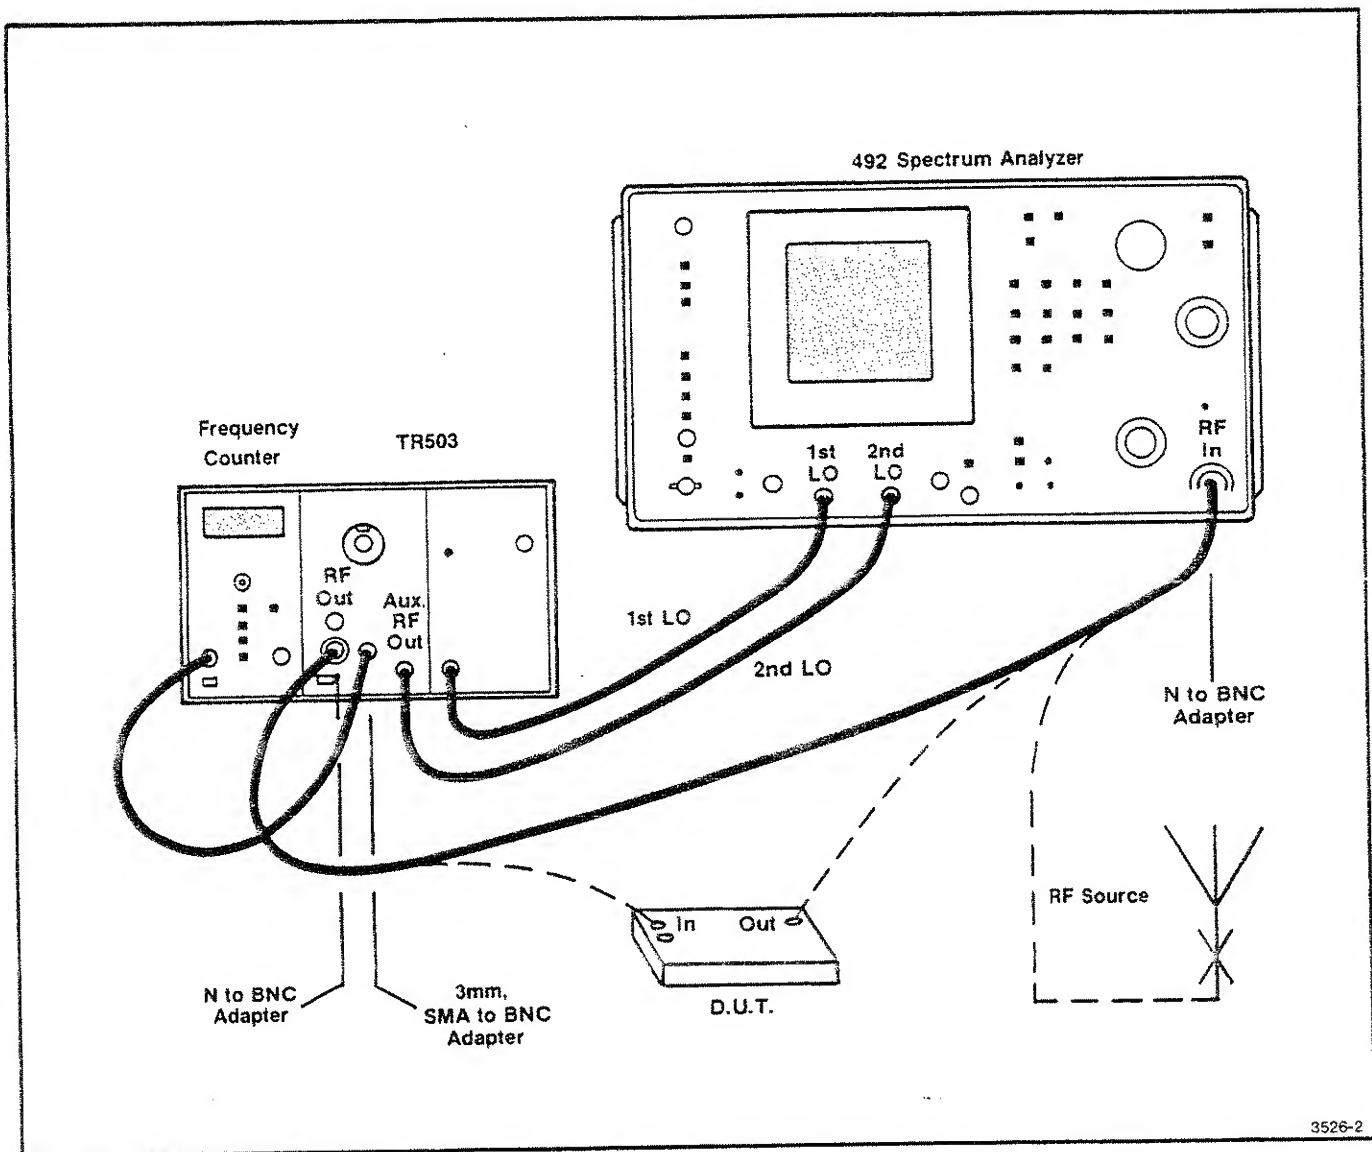

Fig. 2-2. TR 503/492 System with Frequency Counter.
- Compare the connections with Fig. 2-2. The dotted lines are used to show the connections used in the
A 492 Spectrum Analyzer with digital storage (option 2) is recommended for this procedure. Referring to Fig. 2-2, connect and operate the system as follows: